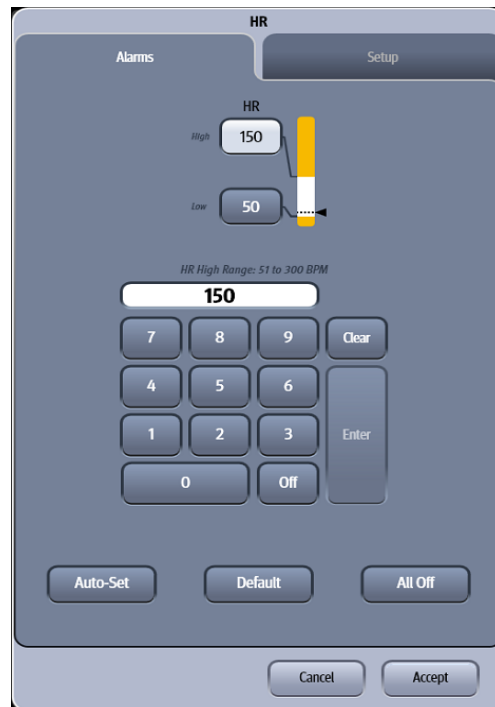

FIGURE 12-1 Example HR Dialog (Alarms Tab)
The **HR** dialog (as shown in FIGURE 12-1) contains an **Alarm** tab and a **Setup** tab. A description of each tab follows.
- The **HR** dialog displays (as shown in FIGURE 12-1).